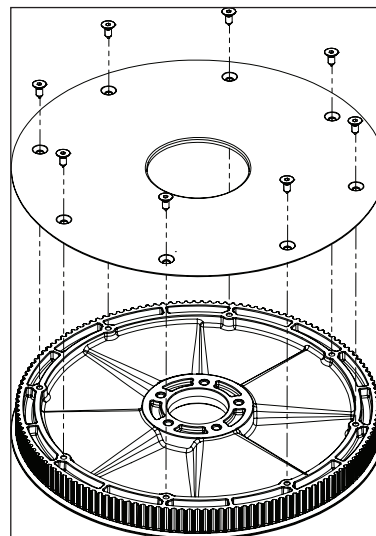

FIGURE 8.2
4. Place the pulley on a shop towel or other soft surface and remove the 8 screws from the inner flange with a 2.5mm hex key or Phillips head screwdriver. (Figure 8.2)